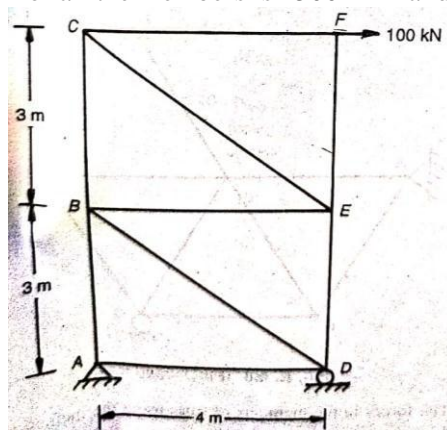

Fig. 5
10. Determine the horizontal and vertical component of the deflection of joint F of the frame shown in Fig. 5. The area of cross-section of all the members is 1500 mm^2 and E is 200 GPa. 14M